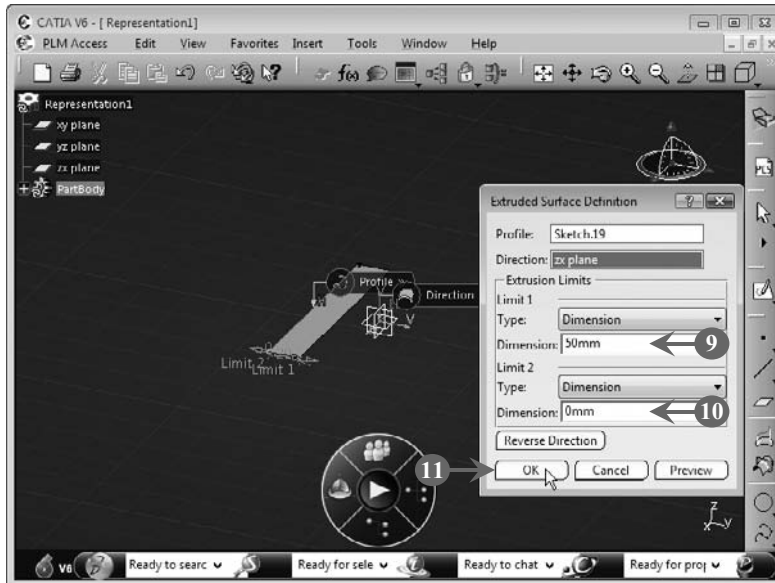

FIGURE 5.58
The selected profile and the reference plane are added to the **Profile** and **Direction** boxes, respectively, in the **Extruded Surface Definition** dialog box (**Figure 5.58**).
9. *Enter* a value representing the length of the surface in the right direction, in the **Dimension** box under the **Limit 1** group in the **Extrusion Limits** group (**Figure 5.58**). In our case, we have entered **50 mm**.
10. *Enter* a value representing the length of the surface in the left direction, in the **Dimension** box under the **Limit 2** group in the **Extrusion Limits** group (**Figure 5.58**). In our case, we continue with the default value, **0 mm**.
11. *Click* the **OK** button to close the **Extruded Surface Definition** dialog box, as shown in **Figure 5.58**: